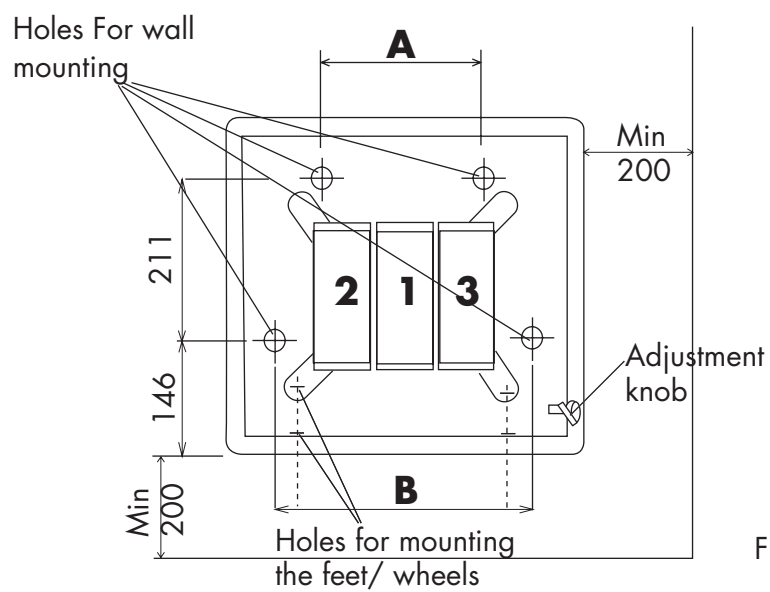

Fig.2
- make four 6mm holes in the wall, following the indications shown in Figure 2;
- fasten the wheels and the feet to the holes shown in Figure 2, using the screws supplied.